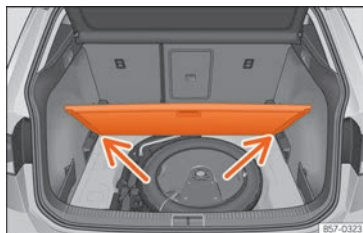

Fig. 170 Variable boot floor: tilted position.
- Rest the floor on its housings >>> Fig. 170 (arrows).